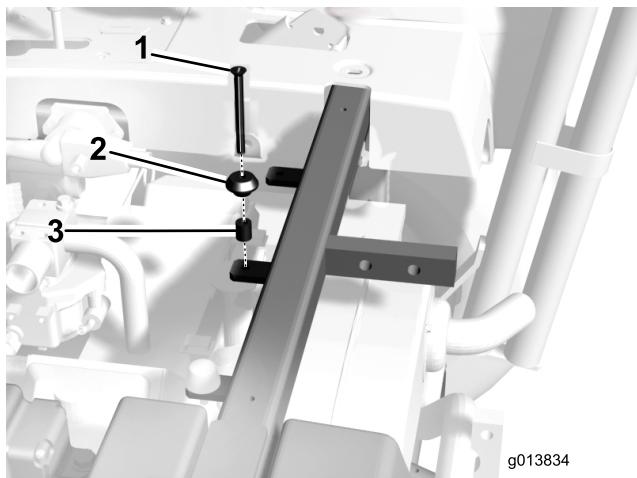

Figure 8
12. Insert the new machine screw, the existing seat holding post and spacer into the frame tab (Figure 8). Do not install the nut at this time.